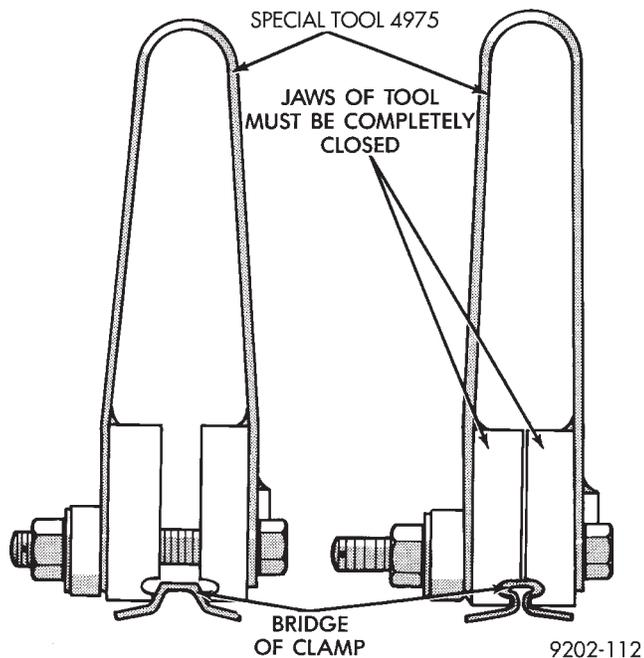

Fig. 15 Closing Clamp Bridge
(3) Position boot clamp evenly over boot. Place clamp installer Tool C-4975 over bridge of clamp and tighten the nut until the jaws of the tool are closed completely, face to face (Fig. 15).